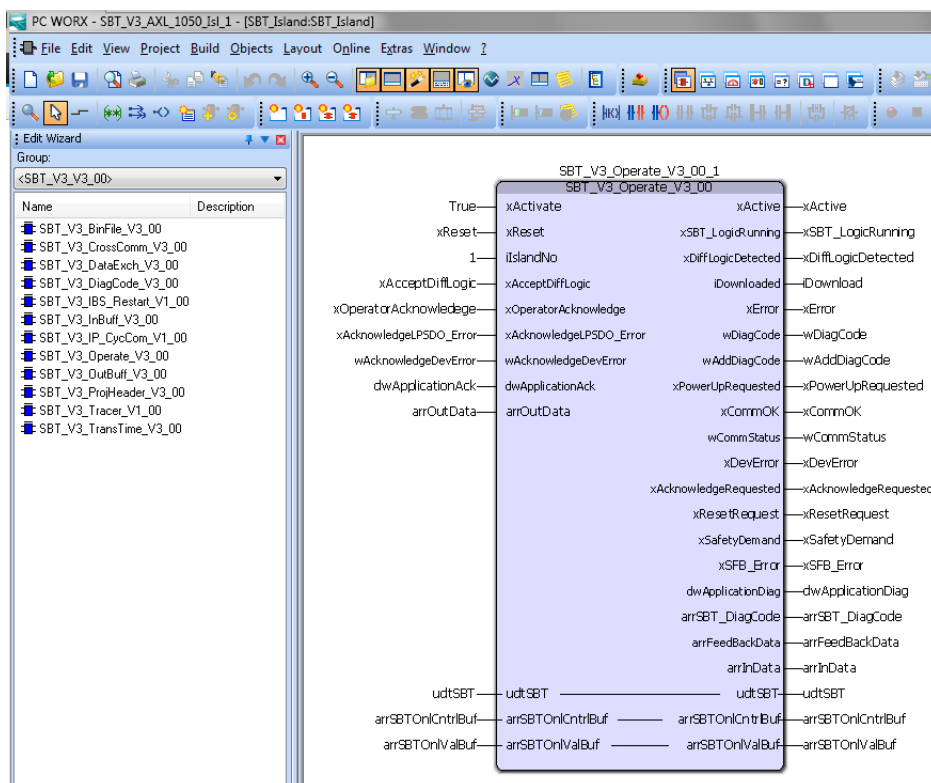

Figure 3-30 “SBT_V3_Operate_V3_00” function block
- Connect the function block as shown in Figure 3-30.